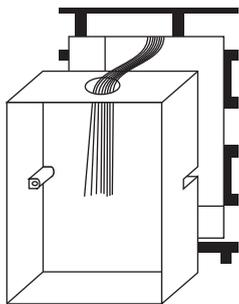

figure2
2. Drill a wire hole in the bottom case, and pass the wire through it (figure 2).